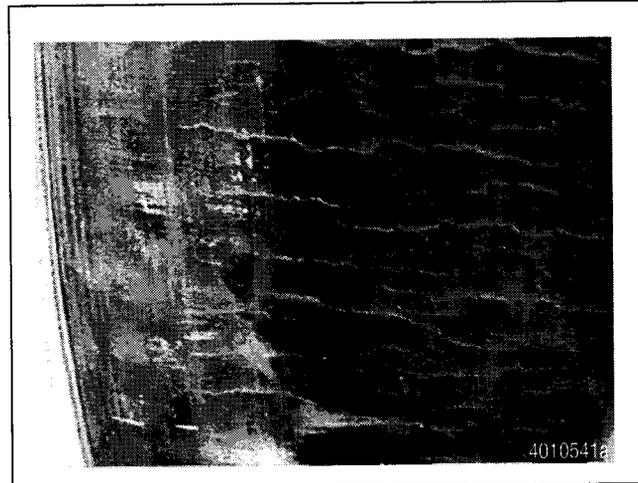

Figure 21
- Heavy heat crazing that covers over 75% of the brake shoe width. Figure 21.